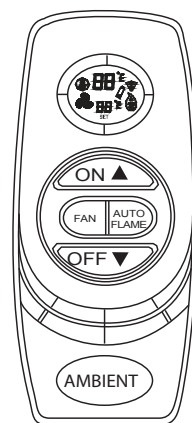

Fig. 60 RCSITEA remote transmitter.
2. During system reset, all features of the LCD DISPLAY will be visible. After one second, the LCD will be initialized. A typical reset display is shown in Figure 60. Note the temperature scale is degree F.